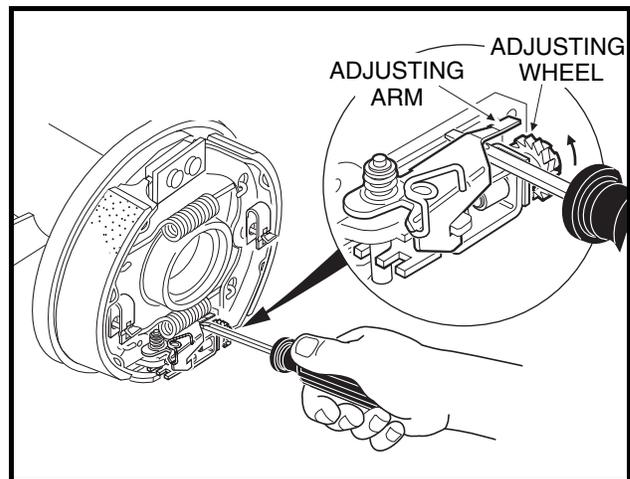

Figure 6-17 Turn Adjusting Wheel
6. Place a flat blade screwdriver under the adjusting arm and raise arm off of the adjusting wheel. While holding the arm up, turn the wheel upward until it stops (**Figure 6-17, Page 6-7**). Remove the screwdriver. **See following CAUTION.**